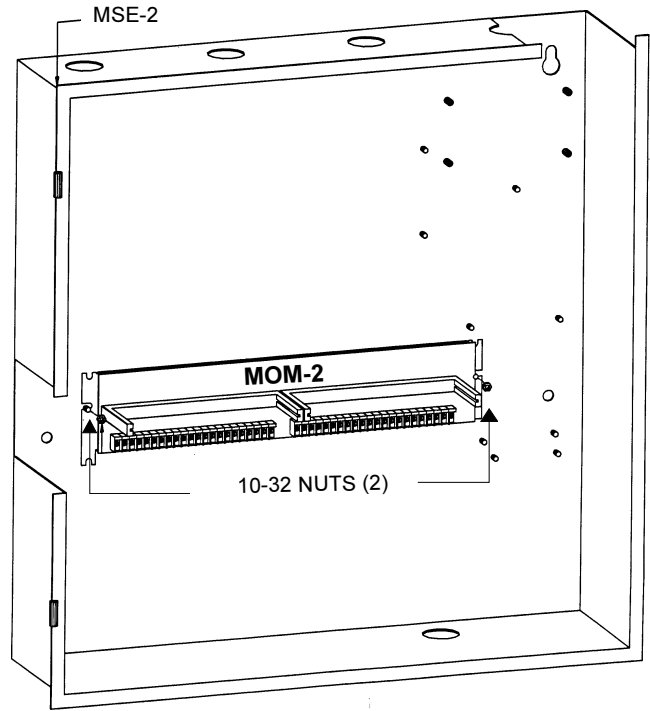

Figure 4
The MOM-2 mounts **horizontally** in the **MSE-2** enclosure as shown in Figure 4.
1. Hold the MOM-2 so that terminal blocks TB2 and TB4 are on the bottom. (See Figure 4.)
2. Place the module horizontally on the mounting studs near the center of the enclosure as shown in Figure 4.
3. Fasten the MOM-2 in position with two of the No. 10 nuts provided, as shown in Figure 4. Discard the remaining nut.